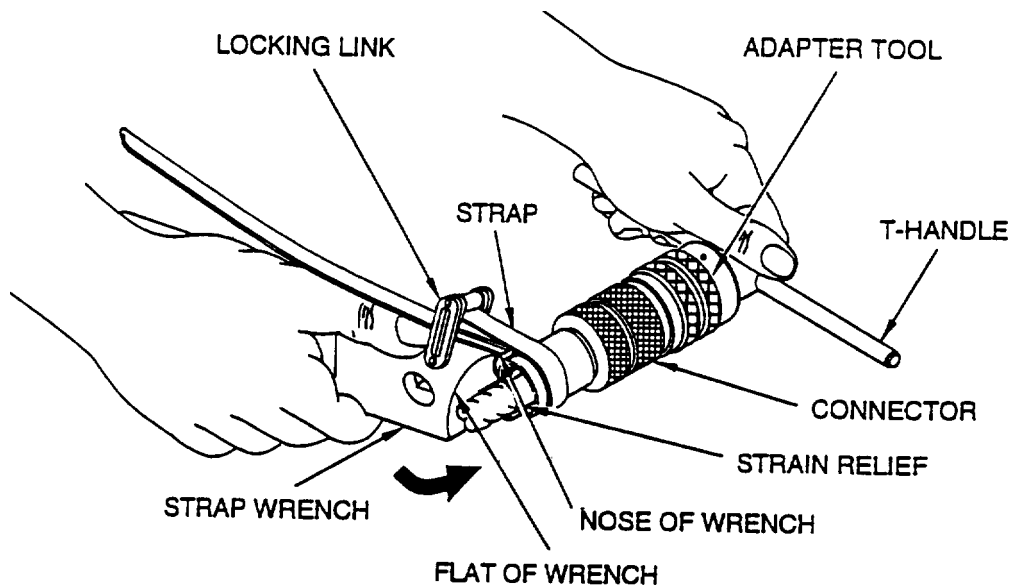

Figure 53. Accessory Removal
a. Hold connector stationary with adapter tool and T-Handle. Install strap wrench around strain relief and apply counter clockwise force to loosen strain relief (Figure 53).